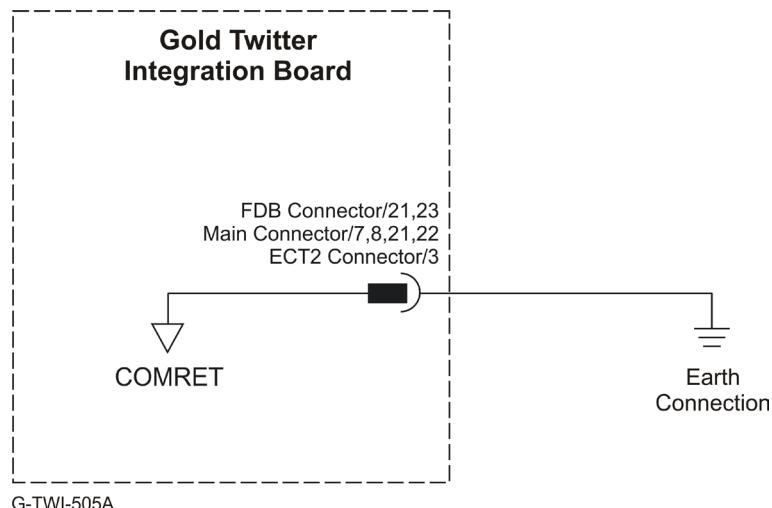

Figure 9: COMRET Connection to the PE
**At least one COMRET pin (Figure 9) must be connected to the Protective Earth (PE).**